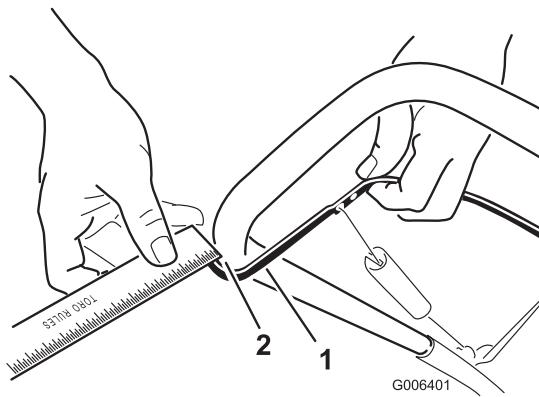

Figure 25
**Note:** Ensure that a 2 mm to 3 mm (1/16 inch to 1/8 inch) gap exists between the control bar and the handle (Figure 25).
Move the control bar back toward the handle to remove the slack in the control cable (Figure 25).
2. Move the Z-fitting to a higher or lower hole on the adjuster link as needed to obtain the 1/16 inch to 1/8 inch (2 mm to 3 mm) gap between the control bar and the handle (Figure 25).